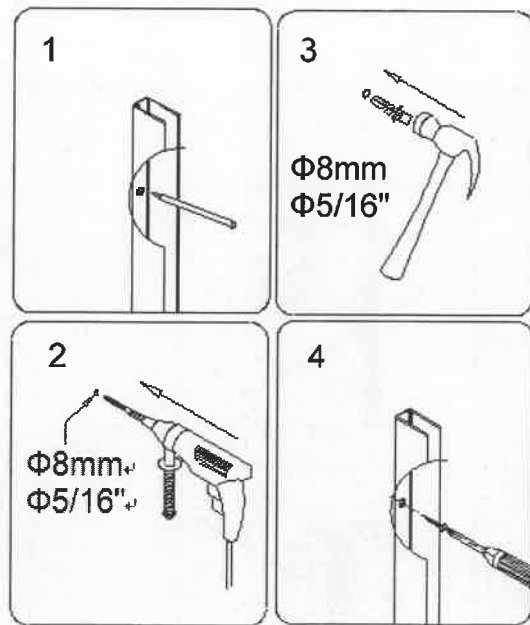

Fig 11
9. Drill through the pre-marked holes, insert **Wall anchor (09)**, and fastening by the **Round head screw ST4.2x40 (07)**. Then fix the enclosure. See Fig 11 for details.